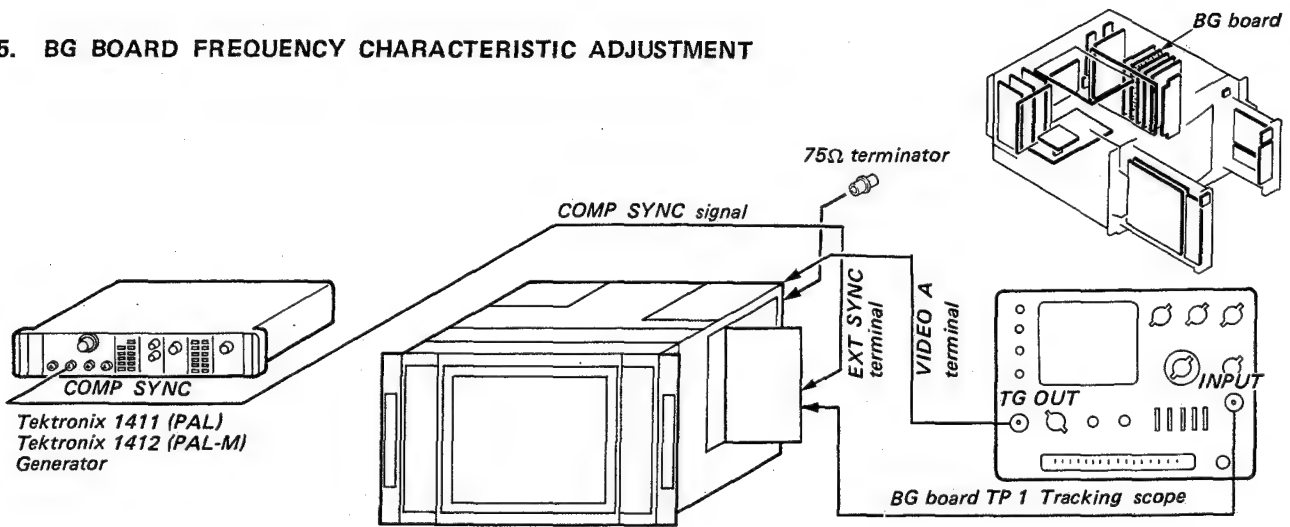
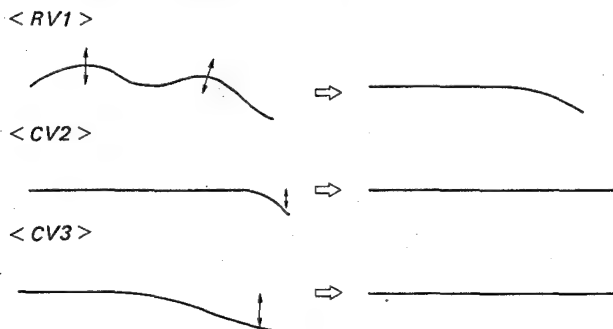

Fig. 5-1
Fig. 5-2
- Complete the connections as shown in Fig. 5-1.
- INPUT selector (FRONT PANEL (R)) ..... A (  )
- SYNC selector (FRONT PANEL (R)) ..... EXT (  )
- Adjust RV1, CV2 and CV3 of the BG board so that the output waveform becomes flat in a range of 0 to 10MHz as shown in Fig. 5-2. (within  $0 \pm 0.5\text{dB}$ )